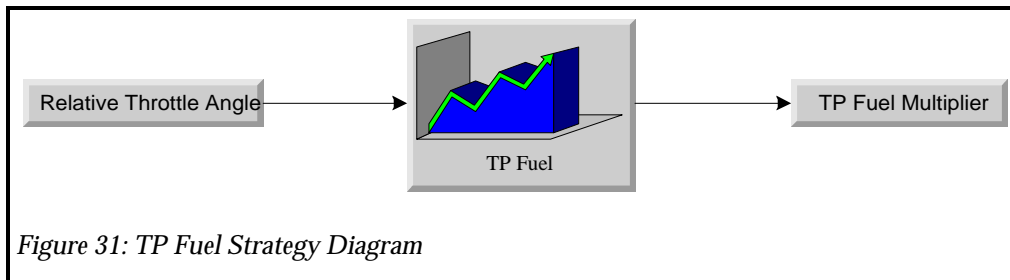

Figure 31: TP Fuel Strategy Diagram
The Throttle Position Fuel (TP) function is a fuel multiplier that allows you to modify your delivered fuel amount based on Relative Throttle Angle. A value of 1.1 will add 10% fuel and a value of 0.90 will remove 10% fuel. Be careful since this table can make sizable modifications to your fuel flow. The TP Fuel Multiplier is calculated from the TP Fuel Function, see Figure 31: TP Fuel Strategy Diagram.